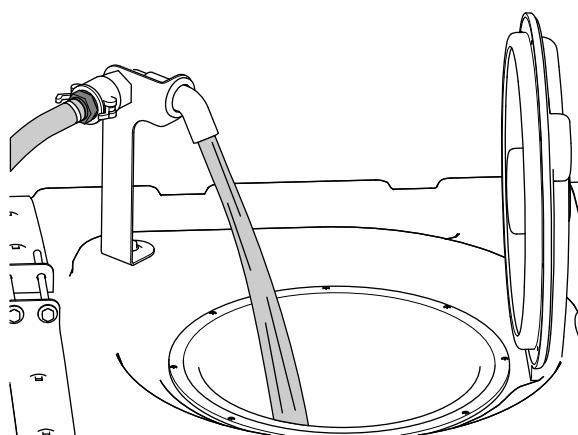

Figure 30
5. Add 3/4 of the required water to the spray tank (Figure 30).